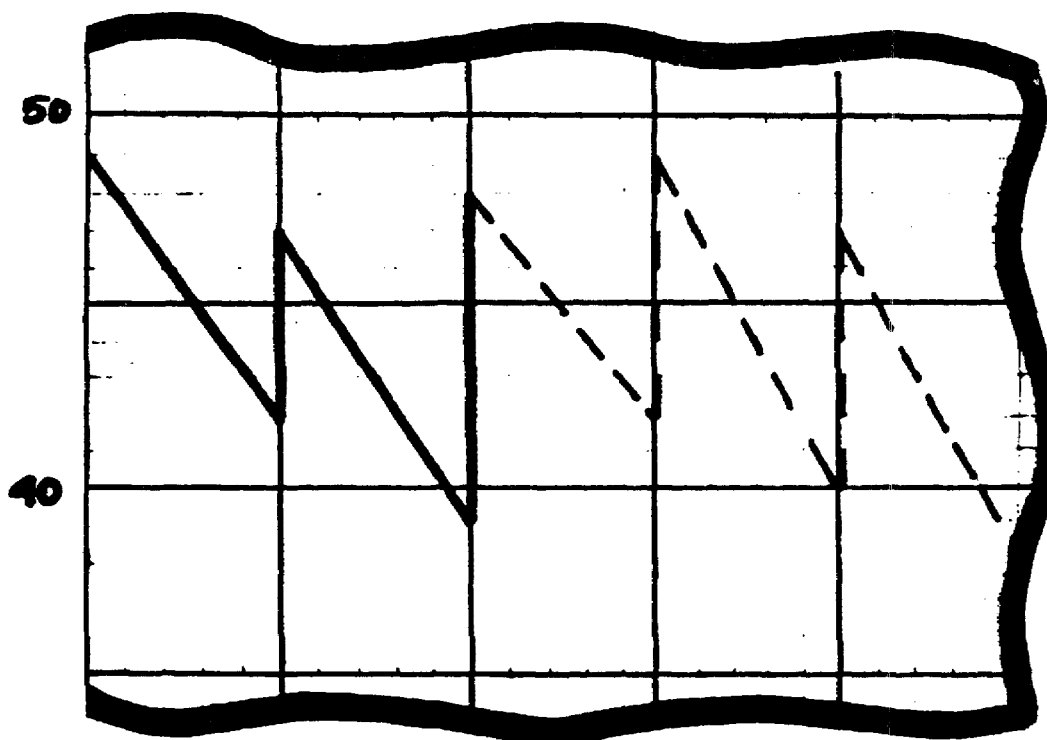

Figure 4. Actual and projected issues and receipts.
(4) Calculated (projected) issues and receipts are shown by a broken line, and actual receipts and issues are shown by a solid line. In figure 4, the period began with 49M bbls in storage. The first day there was a total issue of 7M bbls and a total receipt of 5M bbls. The line shows a continuous drop in quantity from 49M bbls to 42M bbls (49M less the 7M issued). The line then reflects the 5M bbl gain by showing a sudden rise from 42M bbls to 47M bbls (42M on hand plus the 5M received). The second day shows 8M in issues and 9M in receipts. The third day shows projected issues of 6M bbls and projected receipts of 7M bbls. Projections for the next two days are also shown in figure 4.